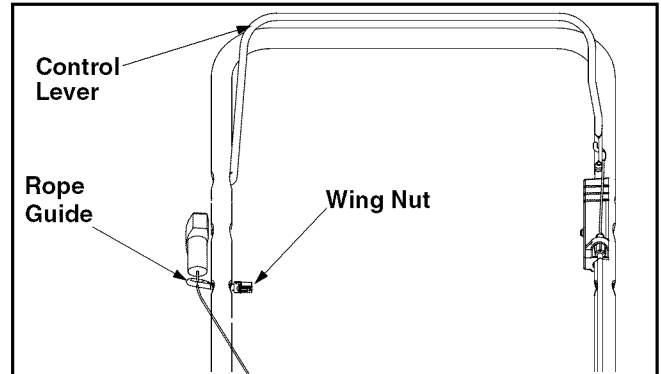

Figure 2
- Loosen the wing nut that secures rope guide to handle. With the spark plug wire disconnected and grounded, hold the control lever against the upper handle, and pull the starter rope out of the engine. Release the control handle, slip the starter rope into the rope guide, and tighten the wing nut. See Figure 2.